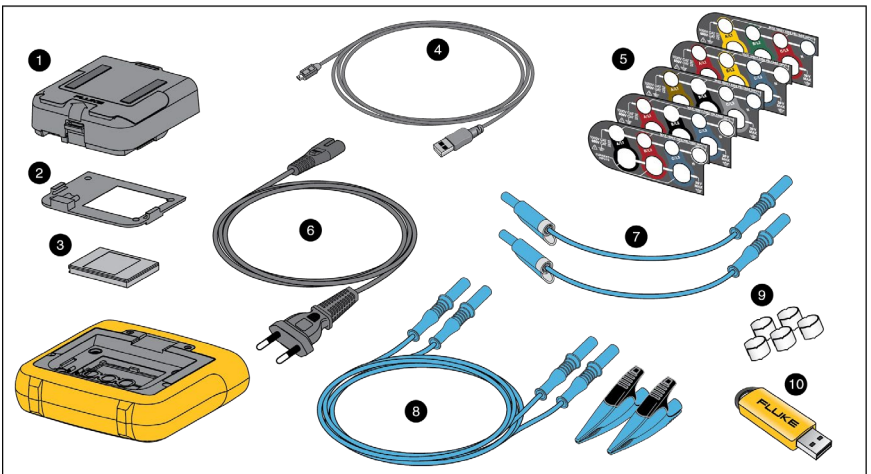

Figure 7. Replacement Parts
You must locate and connect an alternate power source to the instrument if the voltage to measure is <100 V or >500 V. Use the set of 2 m test leads (item 8 in Figure 7) or the supplied power cord.
You must locate and connect an alternate power source to the instrument if the voltage to measure is <math><100\text{ V}</math> or $>500\text{ V}$. Use the set of 2 m test leads (item 8 in Figure 7) or the supplied power cord.
On page 48, replace Figure 7, with: